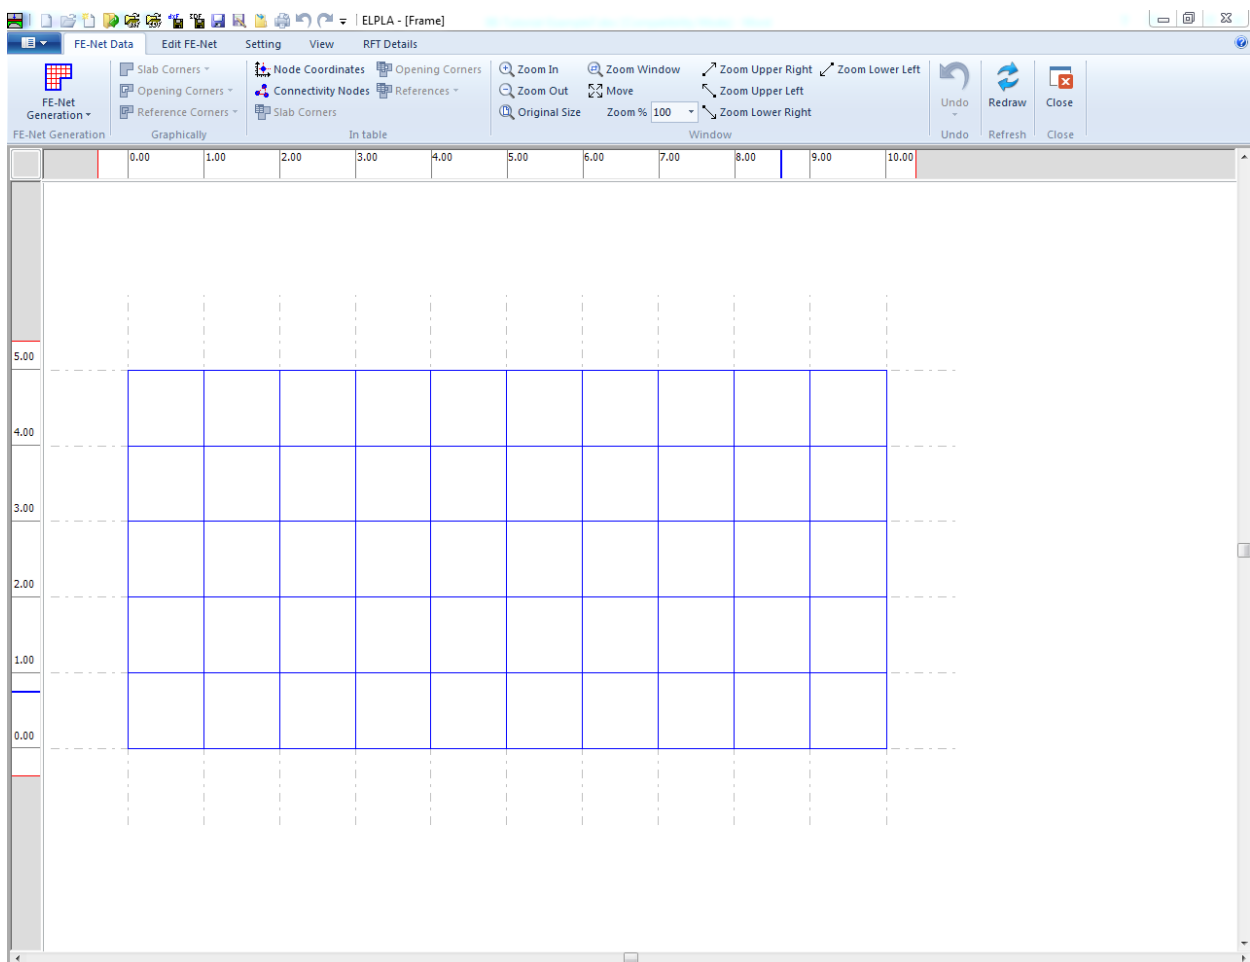

Figure 7.10 Imaginary net of a rectangular area
ELPLA will generate an imaginary net for a rectangular area of 10 [m] length and 5 [m] width with square elements of 1.0 [m] each side. The following Window in Figure 7.10 appears with the generated imaginary net.
- Choose "Save" command from "File" menu in Figure 7.10 to save the data of the imaginary net
- Choose "Close" command from "File" menu in Figure 7.10 to close "FE-Net" Window and to return to the main window.